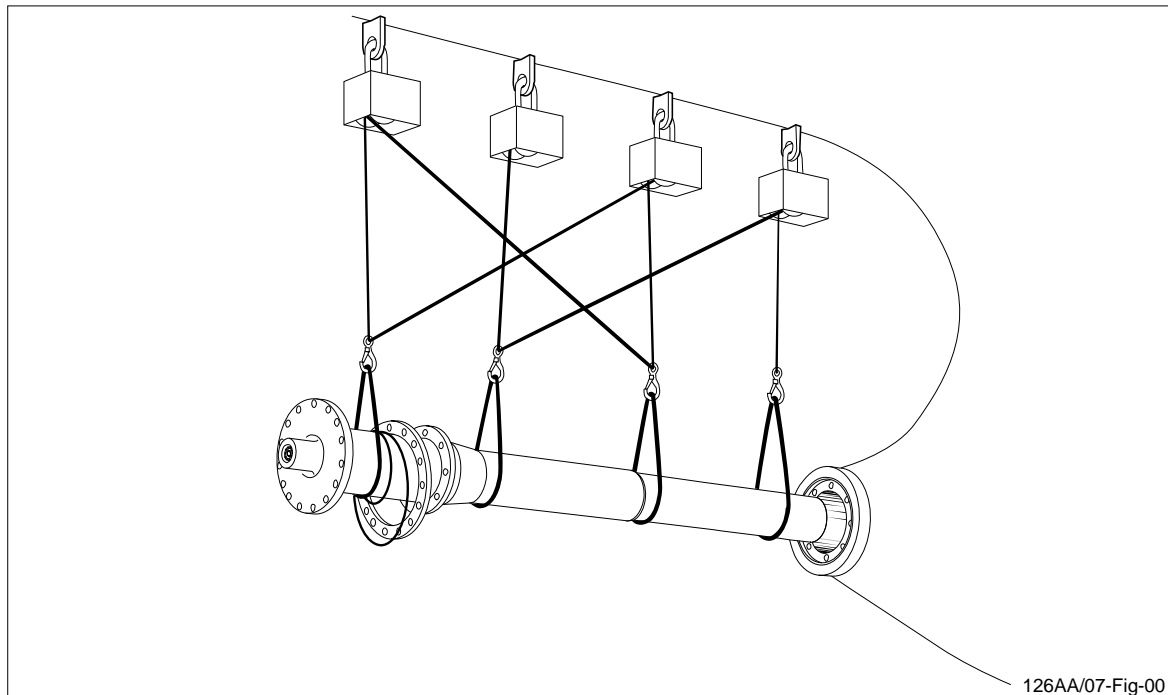
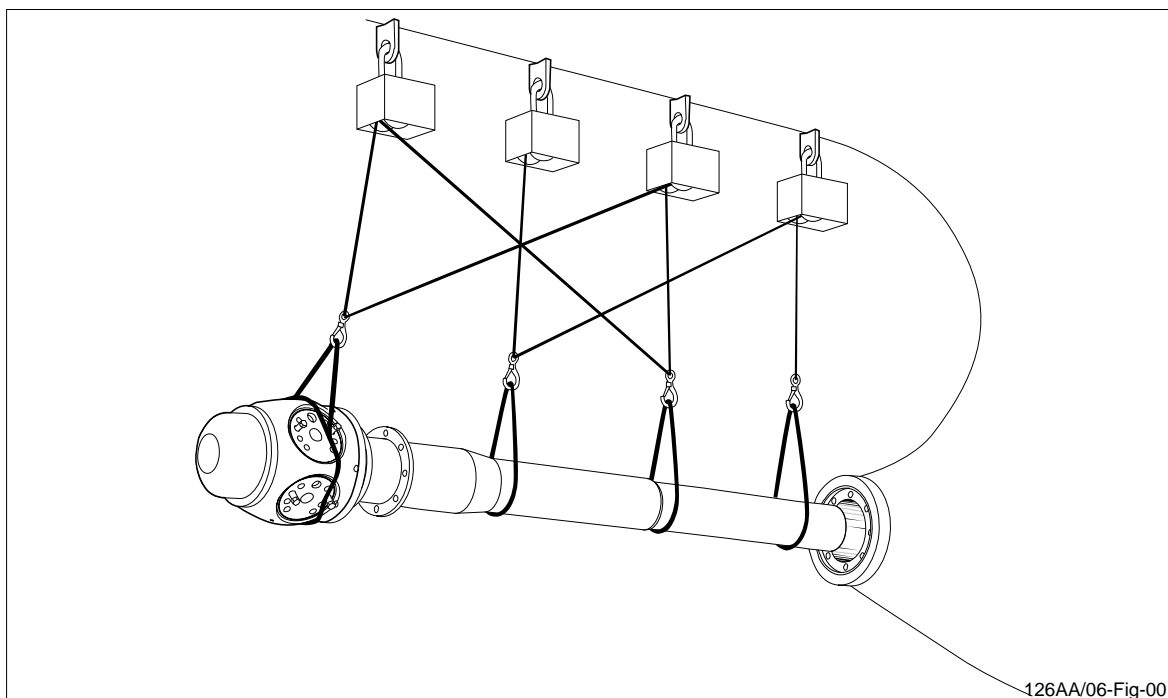

Figure 7 Lifting of propeller shaft with necessary hub mounting equipment.
Figure 8 Lifting of propeller shaft with propeller hub mounted.
- Lift the propeller shaft in chain blocks just in front of the stern tube hole as shown in figure 7 and figure 8.